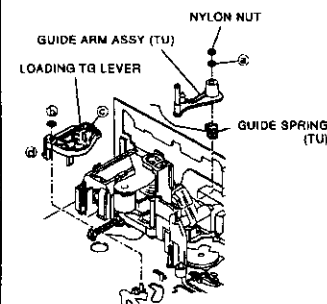

Fig. 2-13-1
- 1 Remove the NYLON NUT shown in Fig. 2-13-1 to remove the SL WASHER (a) the GUIDE ARM ASSY (TU) and GUIDE SPRING (TU).
- 2 Remove the CUT WASHER (b) fastening the LOADING TG LEVER shown in Fig. 2-13-1.
- 3 Unfasten the two catches (c) and (d) of the LOADING TG LEVER shown in Fig. 2-13-1 to remove the LOADING TG LEVER.
- 2 Install the LOADING TG LEVER shown in Fig. 2-13-1.
- 3 Install the CUT WASHER shown in Fig. 2-13-1 to fasten the LOADING TG LEVER.
- 5 Fix the GUIDE ARM ASSY (TU) with the GUIDE SPRING (TU) attached shown in Fig. 2-13-1 to the shaft of the MAIN PLATE ASSY.
- 8 Install the SL WASHER and NYLON NUT shown in Fig. 2-13-1.
- 9 Perform "Adjustment of GUIDE ARM ASSY (TU) Height" in Para. 3-5 of "Interchangeability Adjustment of the Mechanism".